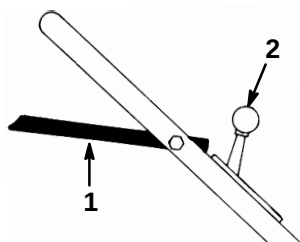

Figure 7
2. Move throttle to  (Choke) (Fig. 7).